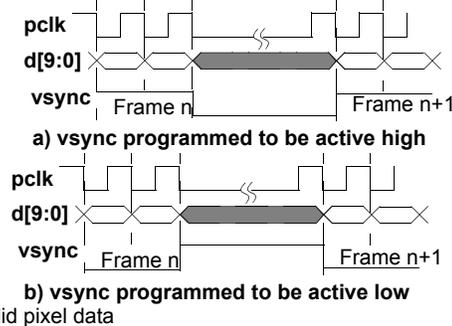

Figure 46. *vsync* in Level Mode
- Level mode** should be used when the pixel clock, *pclk*, is programmed to operate in *free running mode*. In level mode the *vsync* output pin will go to the specified level (high or low) at the start of each frame and remain at that level until the last pixel of the last row in the frame is placed on *d[9:0]* as shown in Figure 46. The *vsync* level is always synchronized to the active edge of *pclk*. The *vsync* pin is put into level mode by setting the *VsyncMode* bit of the *DVBUSCONFIG1* register to a logic 0. The active level of the *vsync* is programmed using the *VsyncPol* bit of the *DVBUSCONFIG1* register.